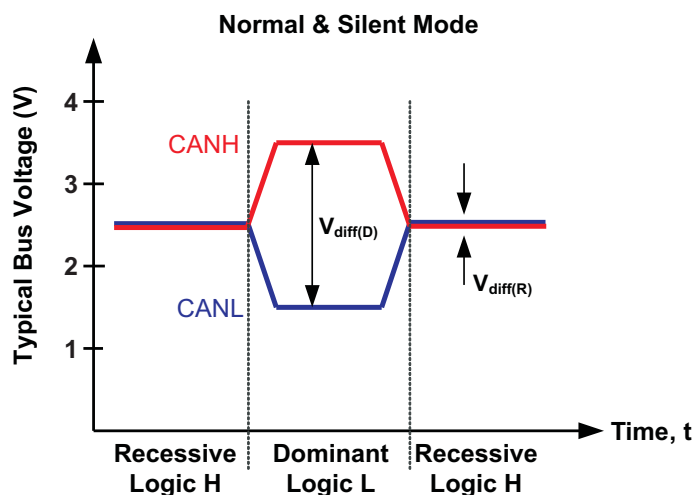
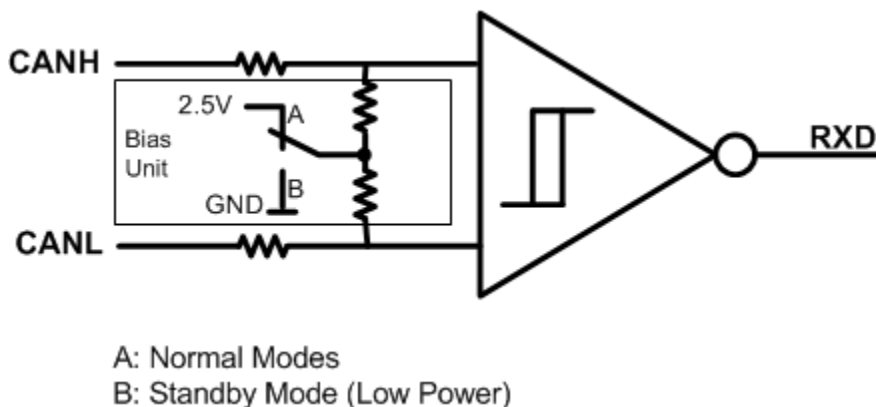

Figure 13. Bus States (Physical Bit Representation)
Figure 14. Bias Unit (Recessive Common Mode Bias) and Receiver
The CAN bus has two states during powered operation of the device; *dominant* and *recessive*. A dominant bus state is when the bus is driven differentially, corresponding to a logic low on the TXD and RXD terminal. A recessive bus state is when the bus is biased to $V_{CC} / 2$ via the high-resistance internal input resistors R_{IN} of the receiver, corresponding to a logic high on the TXD and RXD terminals. See Figure 13 and Figure 14.
- (1) H = high level, L = low level, X = irrelevant, Z = common mode (recessive) bias to $V_{CC} / 2$. See Figure 13 and Figure 14 for bus state and common mode bias information.
- (2) Devices have an internal pull up to V_{CC} or V_{IO} on STB terminal. If STB terminal is open the terminal will be pulled high and the device will be in standby mode.
- (3) Devices have an internal pull up to V_{CC} or V_{IO} on TXD terminal. If the TXD terminal is open the terminal will be pulled high and the transmitter will remain in recessive (non-driven) state.